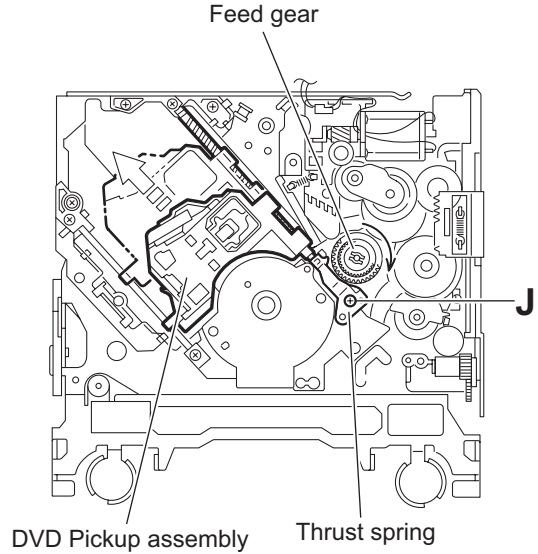

Fig.17
### 3.2.9 Removing the DVD pickup assembly (See Fig.17 to 19)
- (1) From the bottom of the body, turn the feed gear in the direction of the arrow to move the DVD pickup outwards. (See Fig.17.)
- (2) Remove the screw **J** attaching the thrust spring. (See Fig.17.)